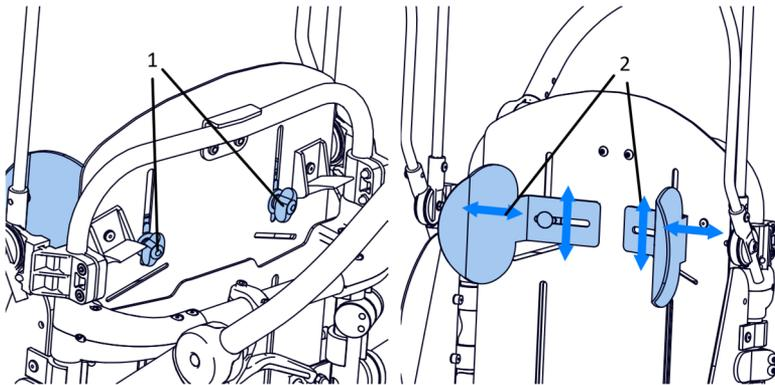

Fig. 14
Head supports Fig. 14 provide support and support of the head position for patients who have trouble maintaining a position. The position of the head supports is adjusted by loosening the knobs (1). Then adjust the head supports (2) to suit the patient's needs. Locking the position of the head supports is done by tightening the knobs (1).